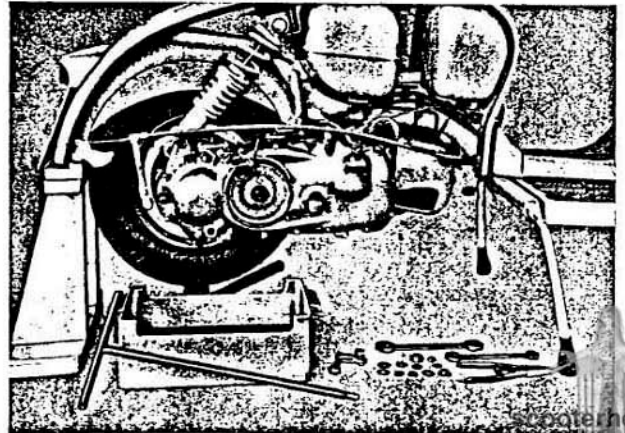

Fig. 4
NOTE - To carry out the dismantling of the rear wheel and shock absorber, the rear of the machine must be raised and rested on the wooden support used in Operation 10 (See Fig. 4).
- 10 - To remove shock absorber bolt; place machine on wooden supporto shown in Fig. 4, screw off nut of the shock absorber bolt (19mm spanner) withdraw bolt, taking care to support the wheel.
- » 11 - To remove Gear change control cable lever, unscrew the nut fixing this (14mm spanner) and withdraw lever. See Fig. 4.